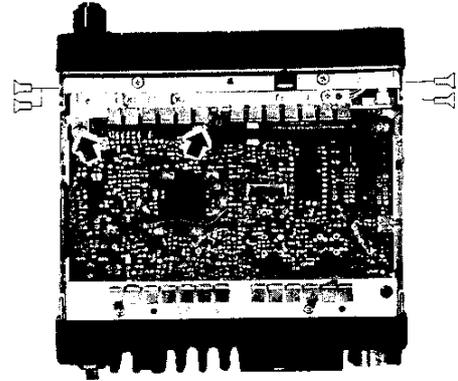
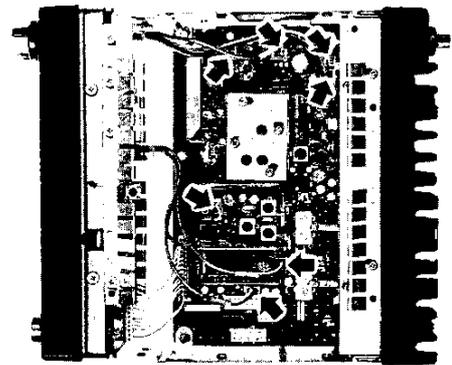

Figure 3a
Figure 3b
- 2) To access the Control, VR, HPF, MIC and Switch Units inside the front panel, remove the four screws indicated in Figure 3a, and unplug the seven connectors indicated in Figure 3b.